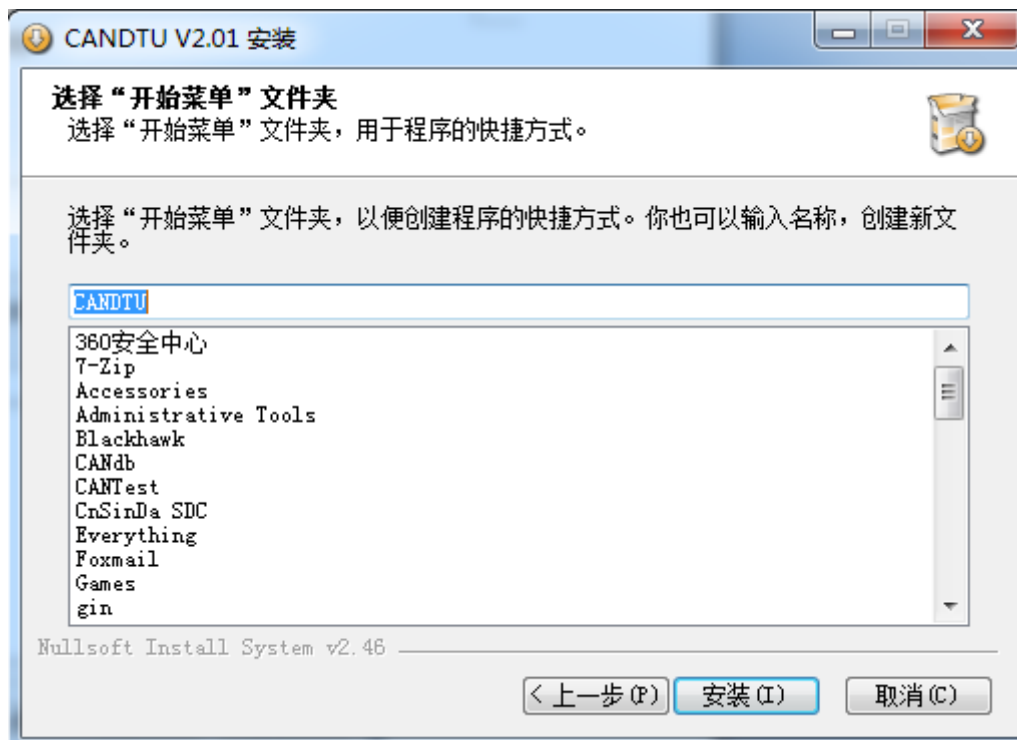

Figure 4.3 Selecting the "Start Menu" folder
3) Click "Next". The dialog box shown in Figure 4.3 appears.